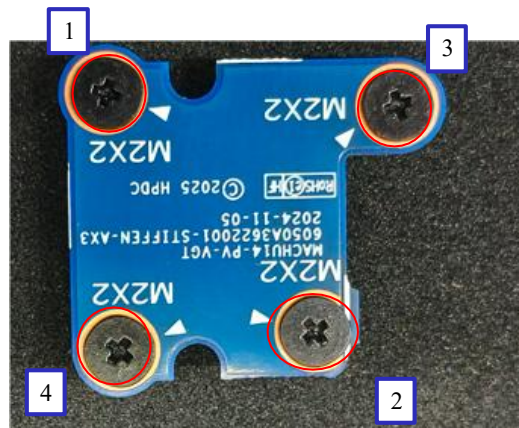

Figure 1
1. Dismantling the B-side stiffener screw*4 (Fig. 1)